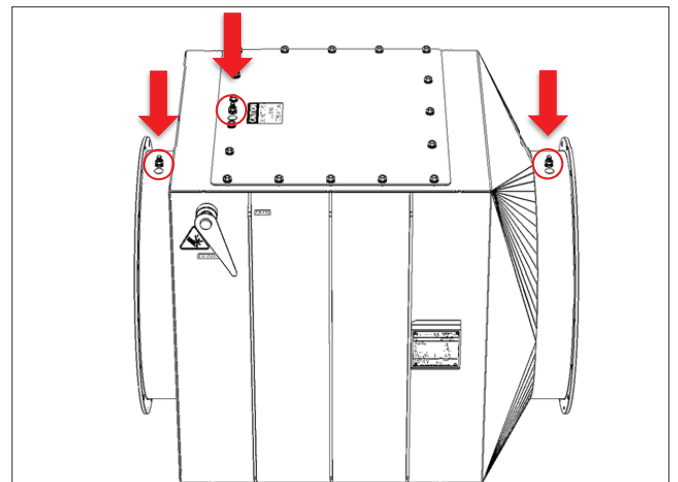

Figure 13: Grounding points
Step 3: Connect inlet, outlet and inspection cover grounding points marked  $\oplus$  to the ductwork (Figure 13). Use at least 4 mm2 cables.